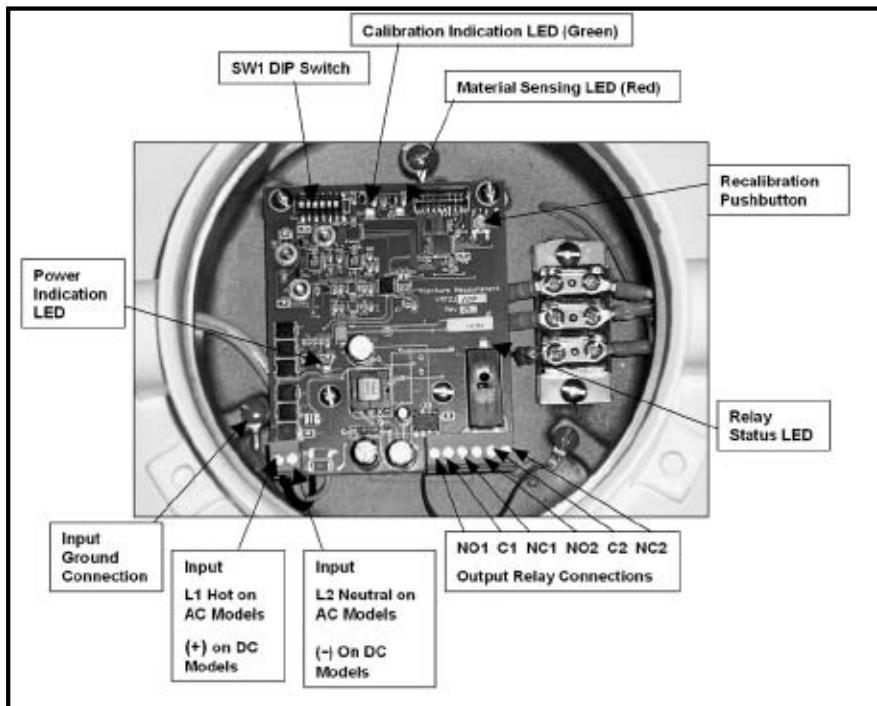
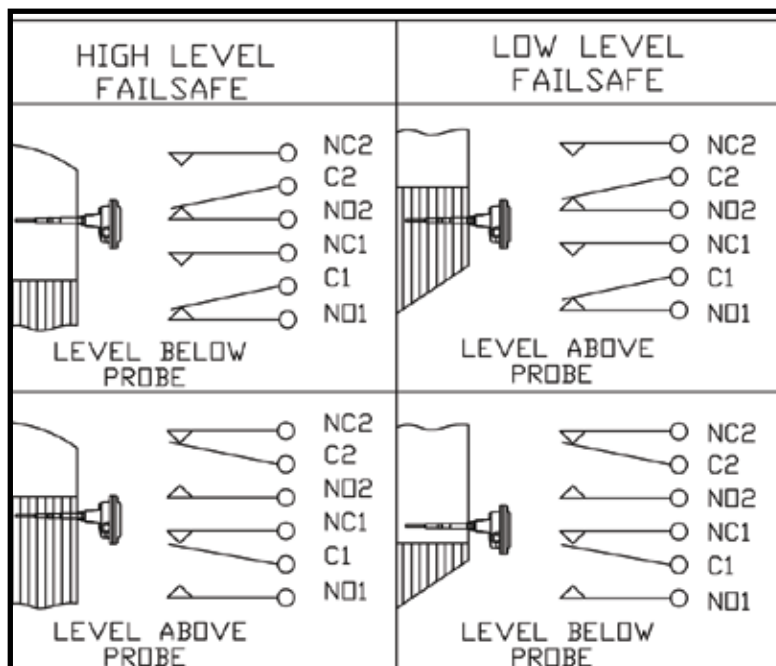

Figure 1. VRF-1000 Electronics
Figure 2. High/Low Level Failsafe
See Figures 1 and 2 in section 4.2 for location of input and output wiring.
See Figure 1 for location of input and output terminal blocks. Agency approved insulated barrel type terminals are supplied in the input terminal block to provide additional safety. These terminals must be used in order to maintain approval requirements. See Figure 2 for output contact positions during stages of operation.
IMPORTANT! An electrical earth ground connection must be made to the housing input ground screw. See Figure 1 for location. This connection is needed for both electrical safety and proper operation of the unit. This is required for both AC and DC units.
The VRF™ is shipped from the manufacturer in the high level failsafe condition. This setting is made on DIP switch SW1, position 5. See Figure 1 in section 4.2.
The VRF™ is shipped from the manufacturer in the 2pF setting. This setting is made on DIP switch SW1 positions 1 and 2. See Figure 1 in section 4.2.
The VRF™ is shipped from the manufacturer in the minimum time delay setting. This setting is made on DIP switch SW1 positions 3 and 4. This setting will delay the time between when the VRF™ unit senses material and the output relay changes state. The delay is only in this direction, regardless of failsafe setting. There will be no delay when the material leaves the probe. See Figure 1 in section 4.2.
The VRF-1000 features EZ-CAL® II. This feature consists of three parts. First, is an automatic calibration when the unit is first powered up. This should be done when no material is present at the probe. Second, is an automatic recalibration if the VRF™ electronics senses that the capacitance of the probe circuit has decreased significantly from what it was when it was last calibrated. Third, is the ability to manually recalibrate by momentarily pushing the recalibration pushbutton. See Figure 1 in section 4.2. The VRF-1000 is shipped from the manufacturer with the automatic calibration/recalibration feature enabled. If only manual pushbutton calibration/recalibration is desired, set SW1 DIP switch position 6 to off.
If the unit is powered on the bench prior to installation, or moved from one installation to another, recalibration is required. Momentarily press the recalibration pushbutton. See Figure 1 in section 4.2 for location. The green calibration indication LED will go off, and after 3 seconds illuminate to indicate calibration is complete.
- Check for proper input voltage. If correct, the "Power Indication LED" should be illuminated. See Figure 1 in section 4.2 for location.